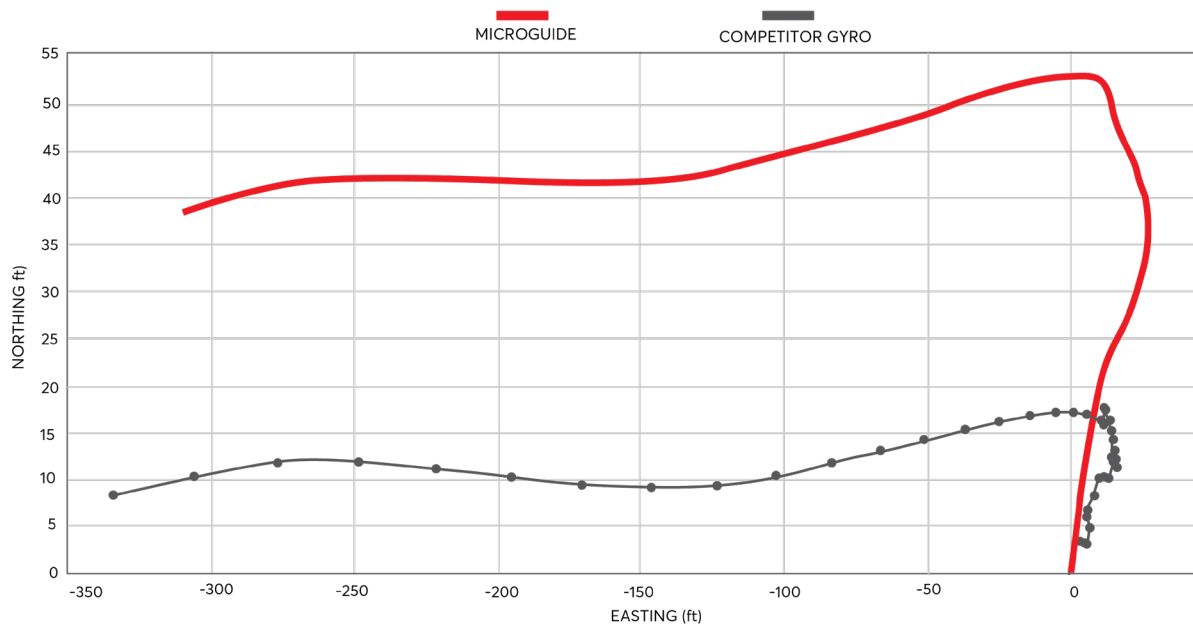

Fig. 3—The MicroGuide logs revealed that in the original survey data, there was a lateral discrepancy of 27 ft versus the actual wellbore placement.
- The MicroGuide data revealed a lateral discrepancy of 27 ft (**Fig. 3**) versus the original gyro surveys, further proving the lack of quality data.